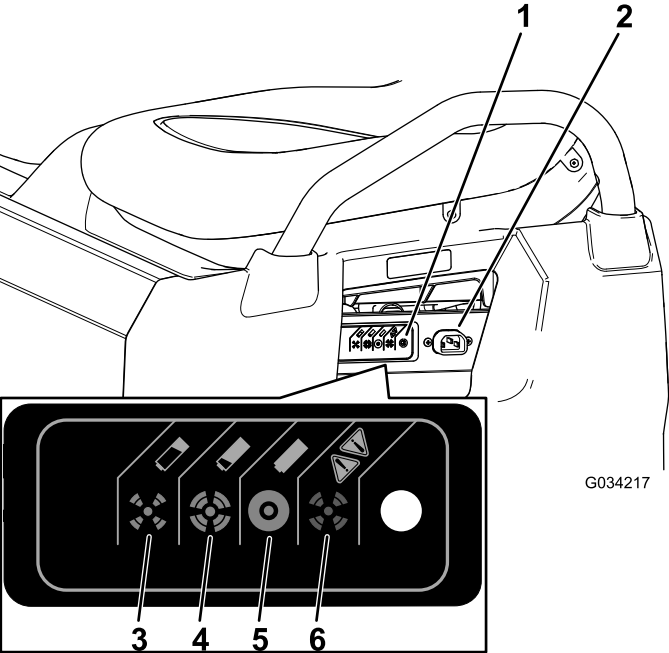

Figure 40
3. Connect a **16 gauge (or larger diameter), 2.5 m (8.2 ft) or shorter charger cord** to the charging receptacle on the machine (Figure 40).
Refer to the following table and Figure 40 for information on the meanings of the varying colors of the charger-status light.